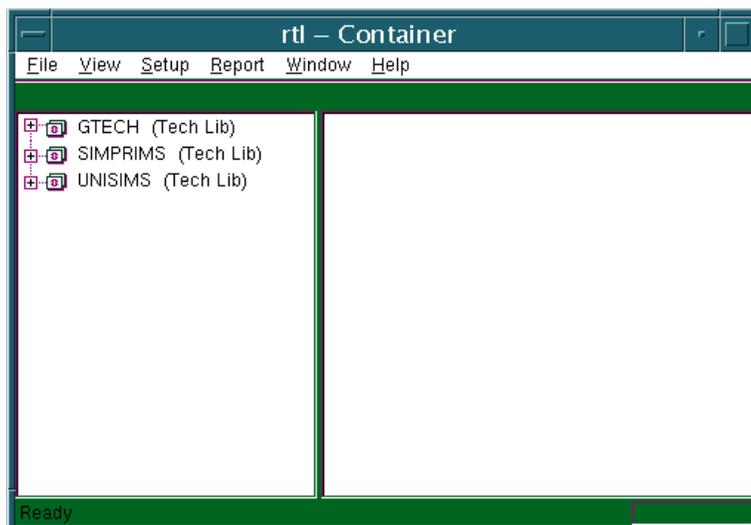

Figure 3: RTL Container GUI
6. Enter 'rtl' for the container name. This container is used to store the RTL (reference) design. The RTL container GUI displays, as shown in Figure 3.